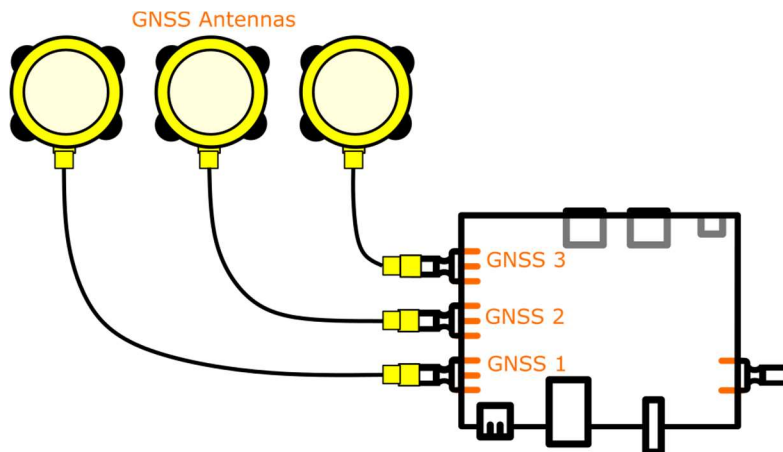

Figure 11: GNSS Antenna connections
The following section describes the different standard connectors and interfaces of the MS-RTK module. Figure 11 shows the antenna-connections with up to 3 GNSS antennas/receivers. Please connect for a One-Antenna setup to GNSS 1, for Two-Antenna setup to GNSS 1+2 and for a Three-Antenna setup to GNSS 1+2+3.
- **SMA Connectors for GNSS:** As already described in Figure 11, on the left side of the board are the connectors for the GNSS antennas. Please take care to connect in the appropriate order (GNSS 1, GNSS 2, GNSS 3).